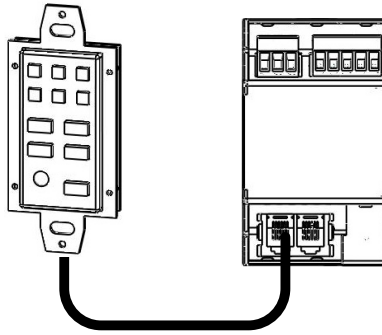

Figure 5
4.1 CS-Bus Wiring Directions (Single Controller to Single Interface Device). (See Figure 5 below.)